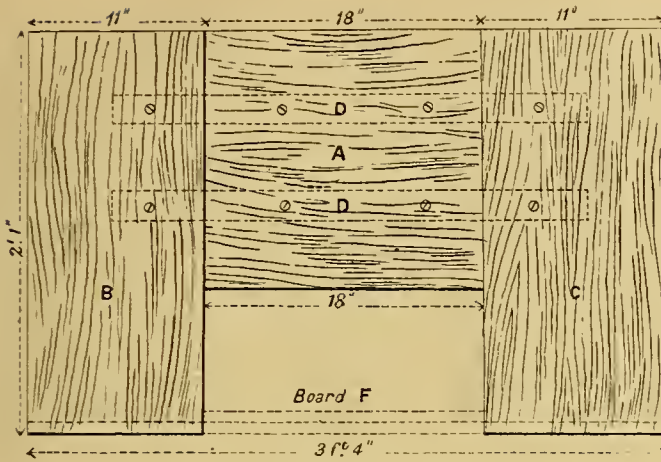

FIG. 29. Front Board
**Q**UR last task, considered in the previous chapter, was that of regulating the keys. Supposing that to be accomplished satisfactorily, we will leave the internal work for a time, and resume the construction of the case. This compulsory change of work is rather a good thing in American organ building; it keeps up the interest in the work better than if we had to keep at one part, say, the case for instance, which would take the builder so long that perhaps he might get tired of the job hanging about, and would commence something smaller. Everyone knows the tendency of the much-abused amateur in this respect if the work be rather tedious, to which failing I must confess myself to have fallen a victim at times. But we are not going to give up yet, are we? Our purpose is to conquer all difficulties, and keep steadily on to the end, until the complete instrument stands in our parlour or drawing-room, proud of its maker. Before the blow pedals can be connected to the action, the front board must be made. Fig. 29. Prepare the parts, A, B, and C, according to the dimensions shown in the illustration, of  $\frac{3}{8}$  inch walnut. The front surface only need be planed, but that must be done nicely, finishing with the scraper. Place the parts in the position shown in the figure. They must be kept together, and strengthened at the back with two cleats (D), made of, say,  $\frac{1}{2}$  inch pine or deal. Glue and screw on with short screws from the back, taking care not to let them come through to the front surface. The dimensions of the whole front board should now be 3 feet 4 inches long, 2 feet 1 inch in height, and  $\frac{3}{8}$  inch thick.